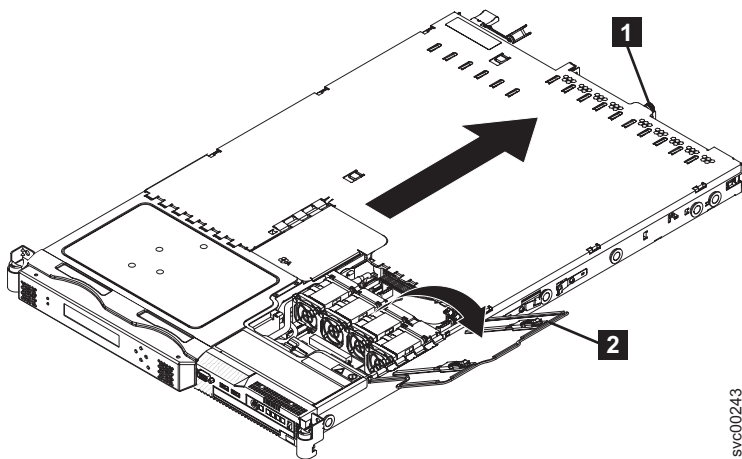

Figure 66. The SAN Volume Controller 2145-8G4 with fan door open
2. Loosen the thumbscrew (**1** in Figure 66) that secures the cover at the rear of the SAN Volume Controller 2145-8G4.